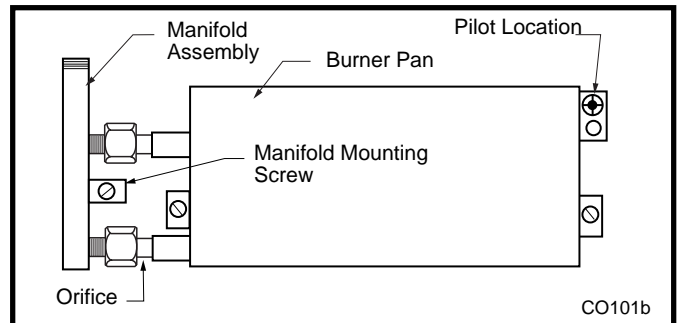

Fig. 59 Remove manifold assembly.
1. Remove manifold mounting screw from burner. (Fig. 59)